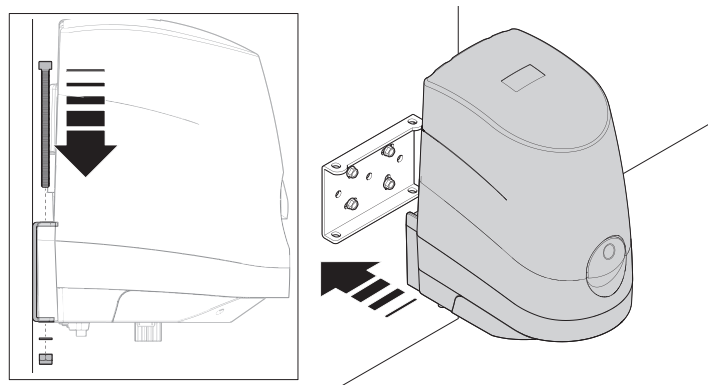

Fig. 7
01. Secure the gear motor to the bracket as shown in **Fig. 7** using the screws, washers and nuts supplied;